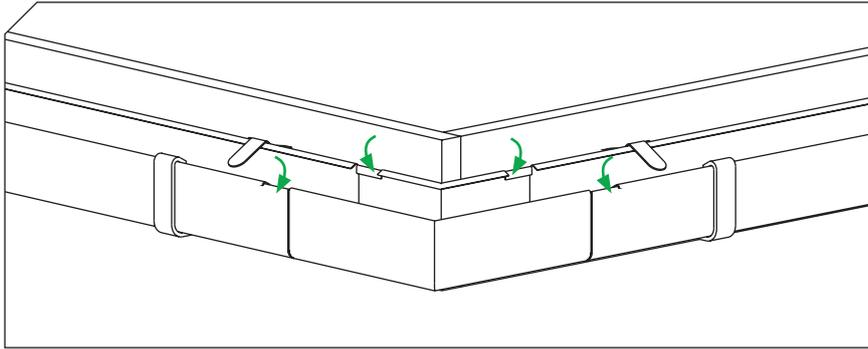

Figure 16
5.6 Close the notched gutter drips on the corner walls. **(Figure 16)**